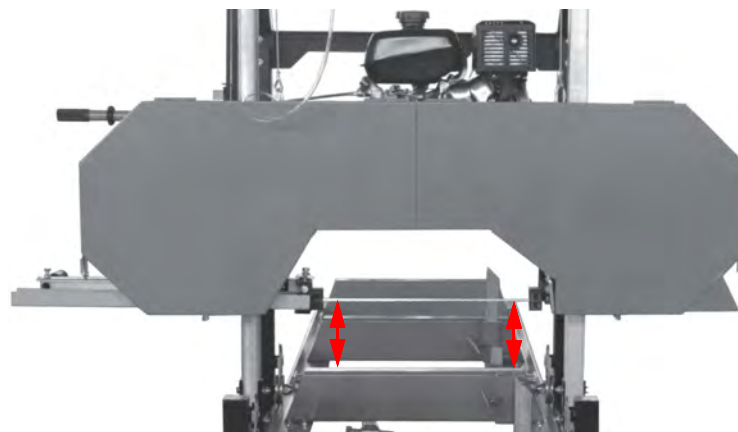

Fig.5-24: Even spacing
16. Use a tape measure to measure the distance from the saw blade to the top of the wood support on the left and right sides. The distance should be the same on both sides (Fig. 5-24). If this is not the case, you will need to adjust the cable ends on the rear handle to raise or lower one side.